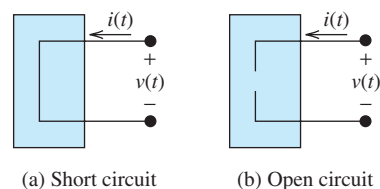

FIGURE P2.46 Circuit for Problem 2.46.
2.46 (H) Find the equivalent resistance of the short circuit and the open circuit shown in Figure P2.46.